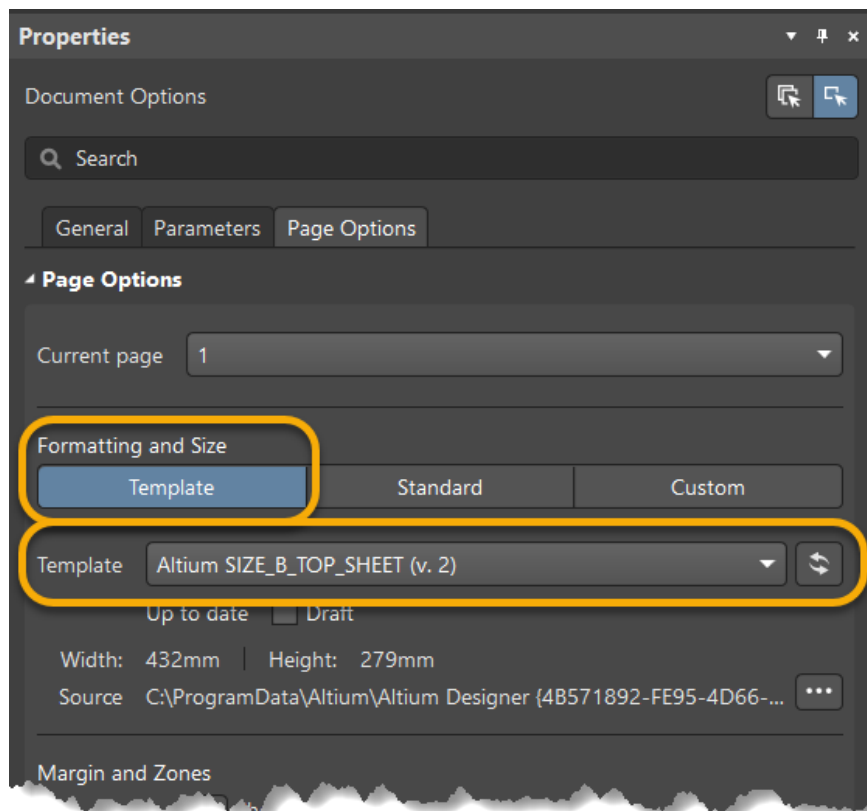

Figure 1. Changing the document template
10. Open the *Properties* panel and select the *Page Options* tab. Under the *Formatting and Size* pane, you see the used *Template* for this document, as shown in Figure 1.